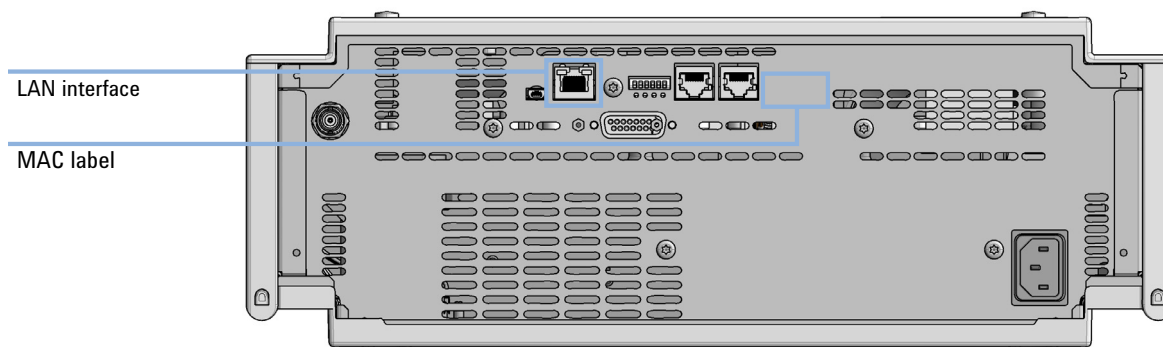

Figure 57 Location of LAN interfaces and MAC label
- 1 Note the MAC (Media Access Control) address for further reference. The MAC or hardware address of the LAN interfaces is a world wide unique identifier. No other network device will have the same hardware address. The MAC address can be found on a label at the rear of the module underneath the configuration switch (see Figure 57 on page 206).
- 2 Connect the instrument's LAN interface (see Figure 57 on page 206) to